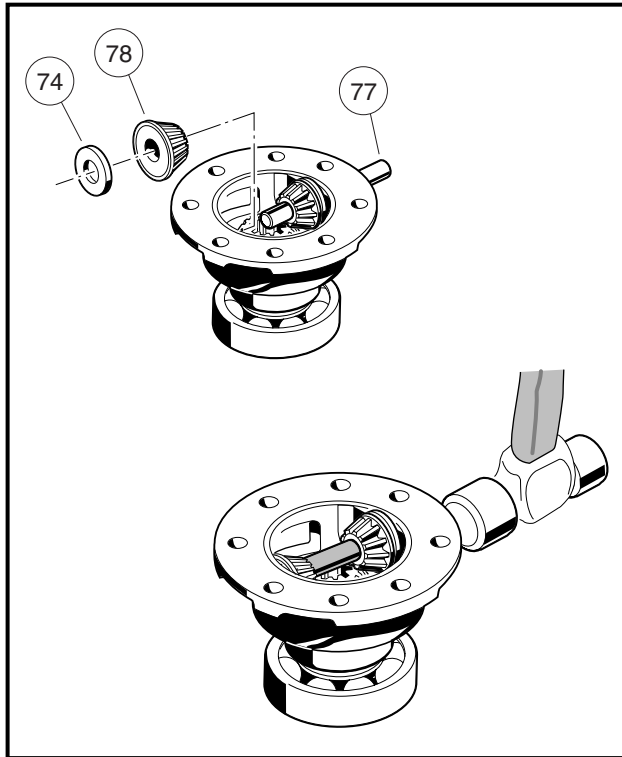

Figure 19-37 Second Idler Gear
4. Position the other thrust plate (74) and idler gear (78) in the carrier case. Continue to drive the pin (77) through them and the wall of the carrier case until the ends of the pin are flush with the sides of the carrier case (**Figure 19-37, Page 19-20**).